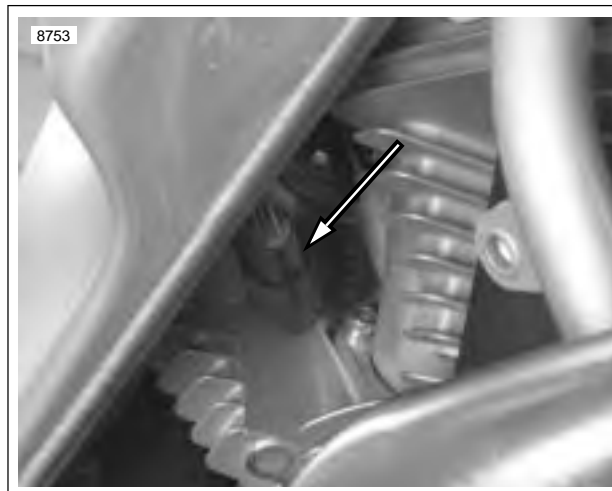

Figure 4-191. Throttle Position Sensor Location
2. See Figure 4-191. Disconnect throttle position sensor connector [88].